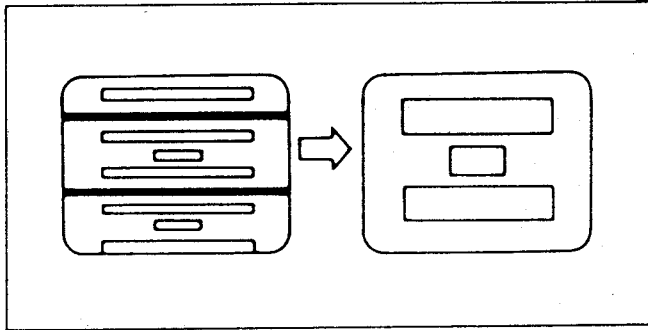

Fig. E2
- (1) Aim the camera at the gray scale chart.
- (2) Adjust the Vertical Size(VR801) so the Vertical Size is correct and the picture does not roll as shown in Fig.E2.